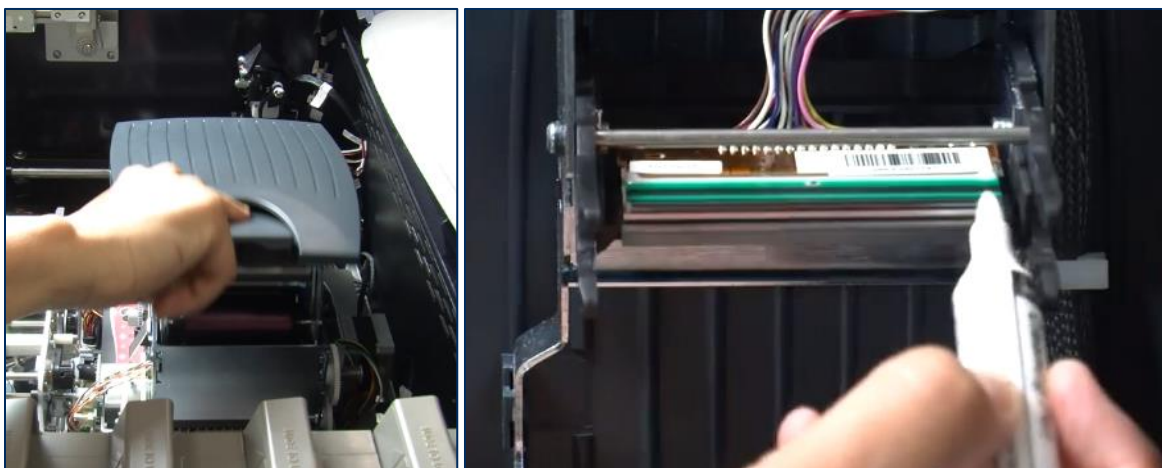

Figure 3-9 - Cleaning the Image Print Head
- 2) Locate the print head (see **Figure 3-9**). The area you want to clean is the front face of the thin brown glass layer closest to the ceiling.